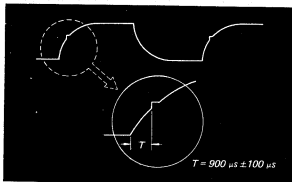

Fig. 7-3. TP-105 waveform
2. Adjust R141 so that the interval of the gate pulse is  $900 \mu\text{s} \pm 100 \mu\text{s}$ . See Fig. 7-3.